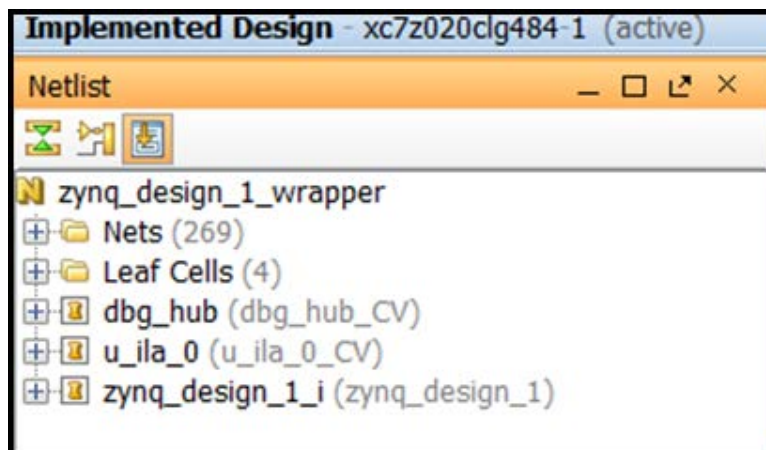

Figure 41: Implemented Design
4. In the implemented design, go to the **Netlist** window to see the inserted ILA and Debug Hub (dbg_hub) cores in the design (Figure 41).